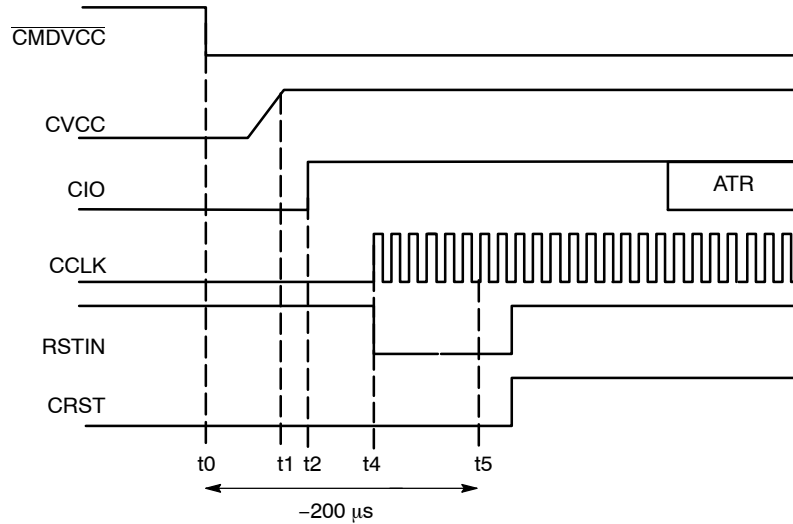

Figure 4. Activation Sequence - RSTIN mode (RSTIN Starting High)
The clock can also be applied to the card using a RSTIN mode allowing controlling the clock starting by setting RSTIN Low (Figure 4). Before running the activation sequence, that is before setting Low \overline{CMDVCC} RSTIN is set High. The following sequence is applied:
- Between t₂ (Figure 4) and t₅ = 200 μs, RSTIN is reset to LOW and CCLK will start precisely at this moment allowing a precise count of clock cycles before toggling CRST Low to High for ATR (Answer To Reset) request.